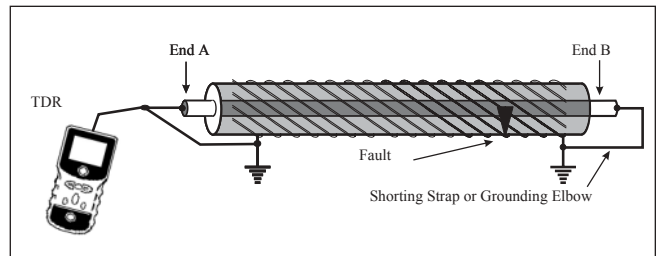

Figure 10: TDR test for continuity
- After connecting a short between phase and neutral at end B (Figure 10), look for the downward indication of a short circuit at the cable end on the TDR. If the TDR shows an alternating open and short when alternately removing and applying the ground at the end of the cable, the phase and shield are continuous to the cable end. If the short does not appear on the TDR and a high resistance was read during the loop test, either the phase or shield is open at some point before the cable end.